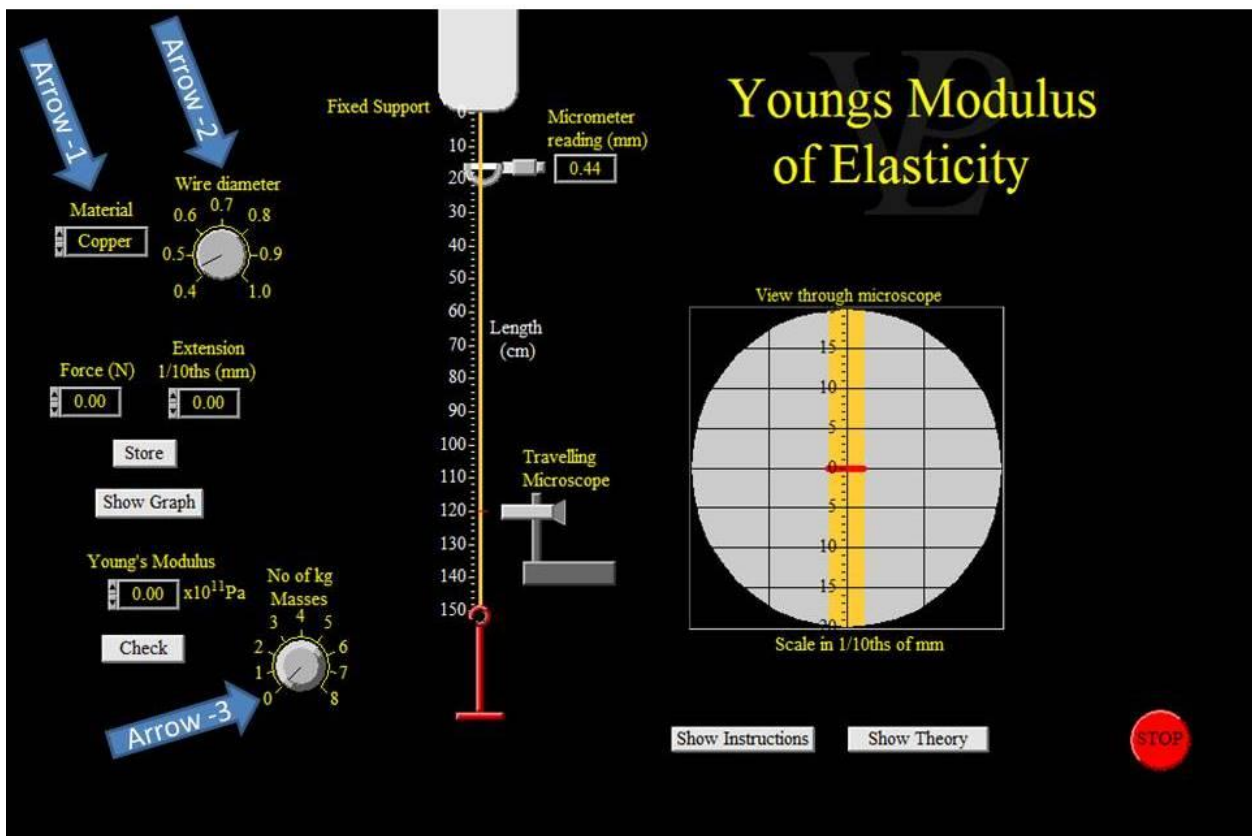

Fig. 1
1. At first unzip “**Young’s Modulus\_vle (zipped)**” File. Click on the executable file “**Youngs Modulus\_vle**” then a window will open as shown in Fig. 1.
2. Select the material of the wire whose Young’s modulus you want to determine by choosing steel from the rectangle box on the top left (Arrow-1) of Fig. 1.
3. Adjust the diameter (0.6 mm) of the steel wire using the circular knob on the top (Arrow-2) as shown in Fig. 1. Keep the material and diameter of the wire unchanged throughout your experiment.
5. Add a 1 kg of mass using the circular knob near the bottom of the screen (Arrow-3) as indicated in Fig. 1. Record the extension of the wire as seen through the microscope. You have to wait for a few seconds until the oscillation of the red pointer in the field of view of the microscope is stopped. Remember that the microscope scale in 1/10ths of mm, i.e., its 1 division equal to 0.1 mm.